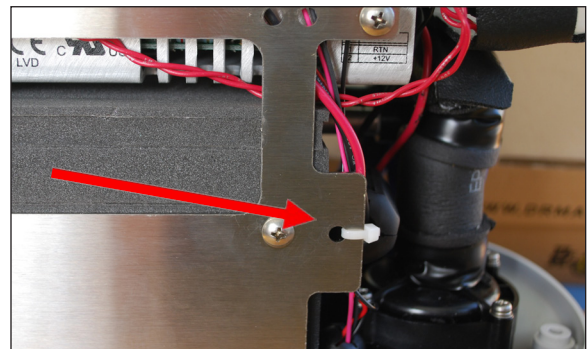

Figure 62 - Step 4 Remove the wire tie
4. Remove the wire tie holding the fan and pump wires to the thermoelectric subassembly bracket (Figure 62).